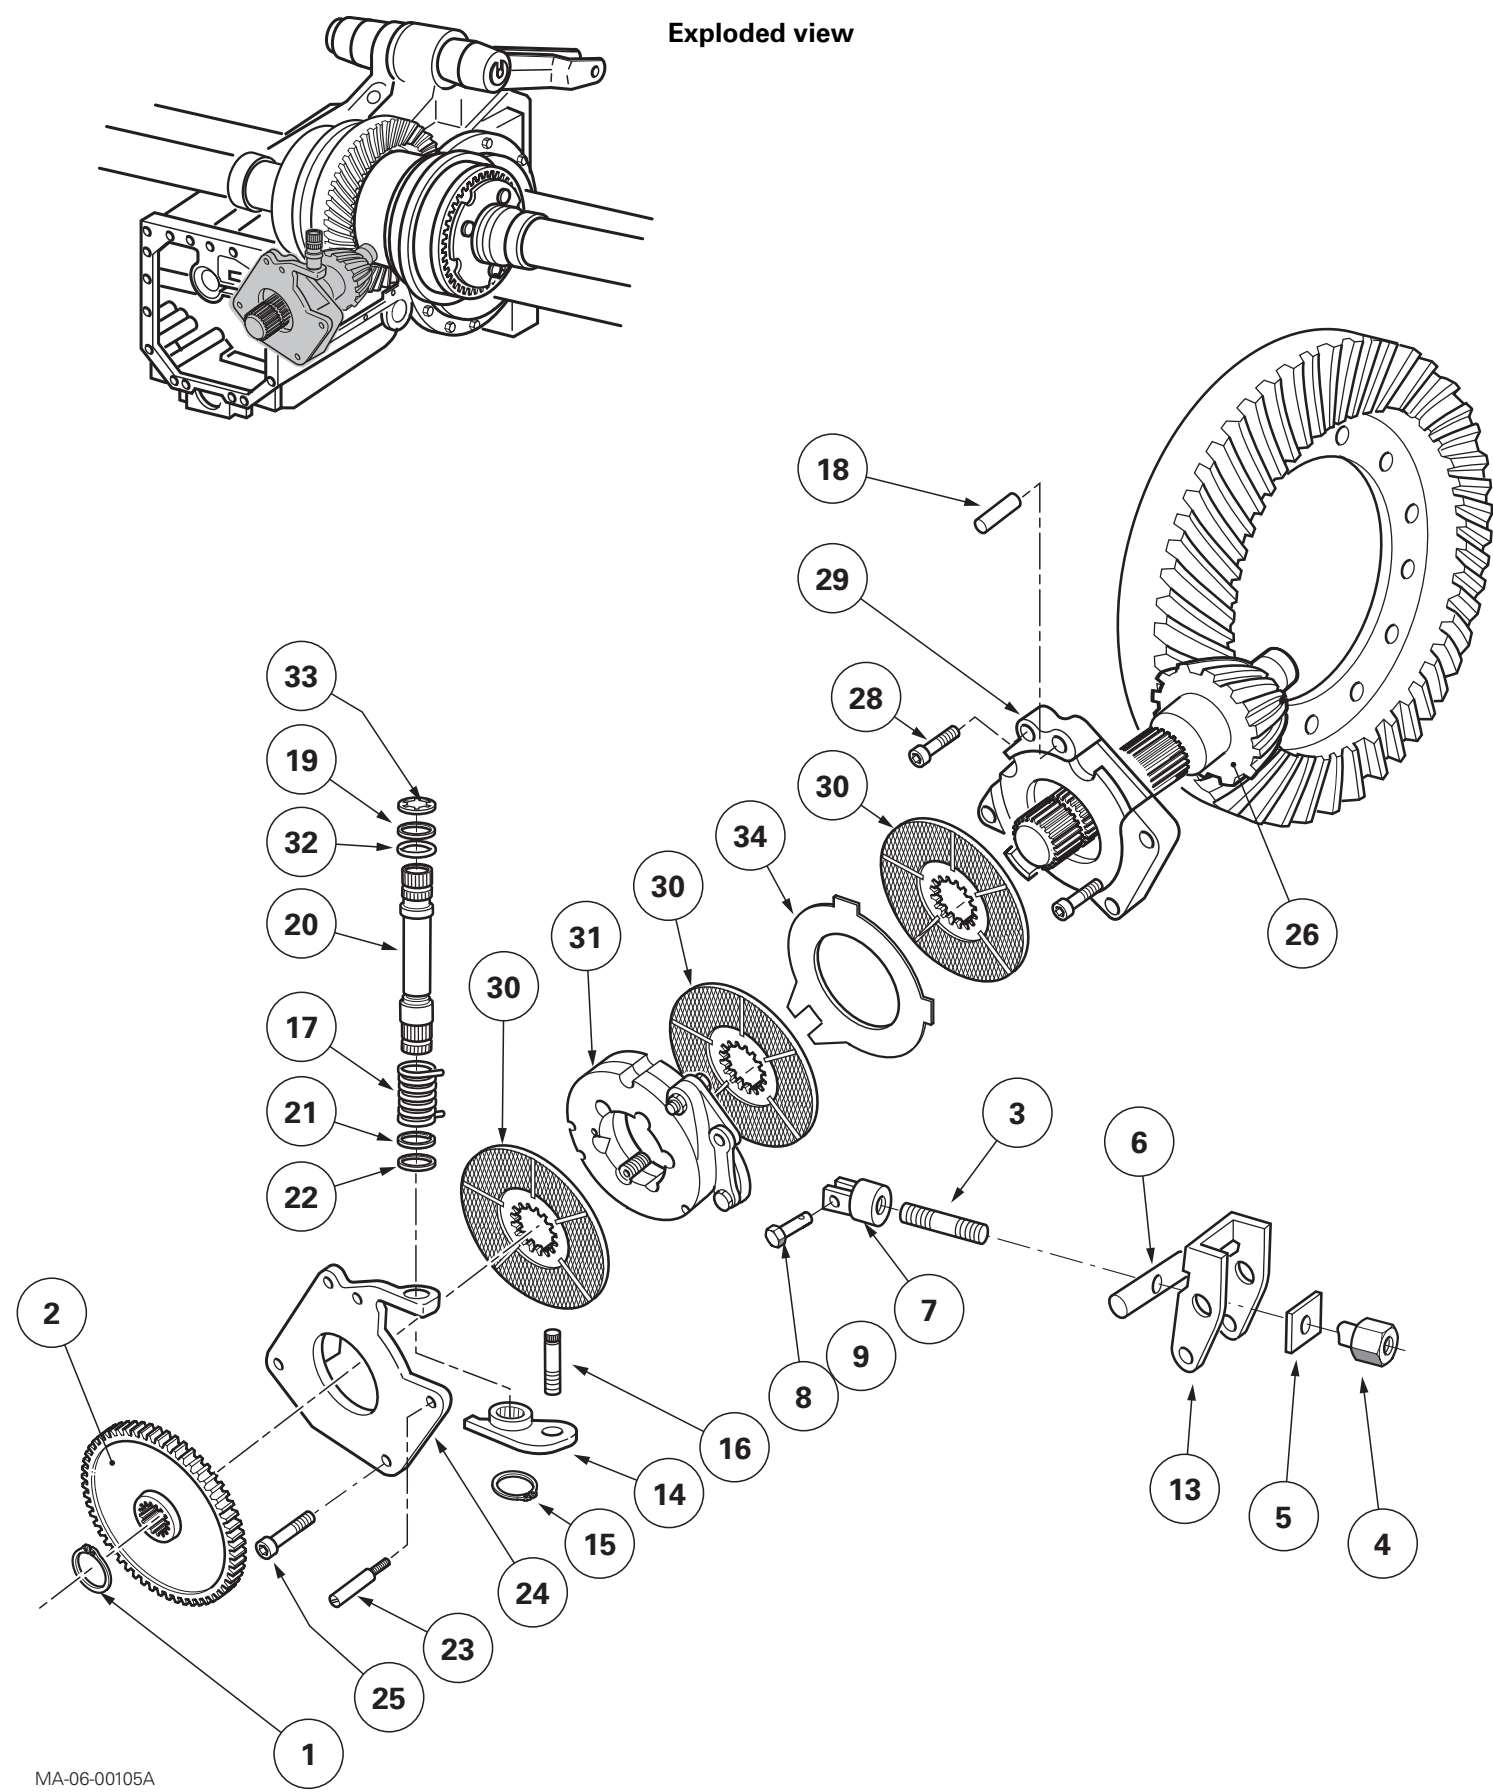

Fig. 2
8. Take off circlip (1) (Fig. 2).
9. Remove the pinion (2) (if fitted).